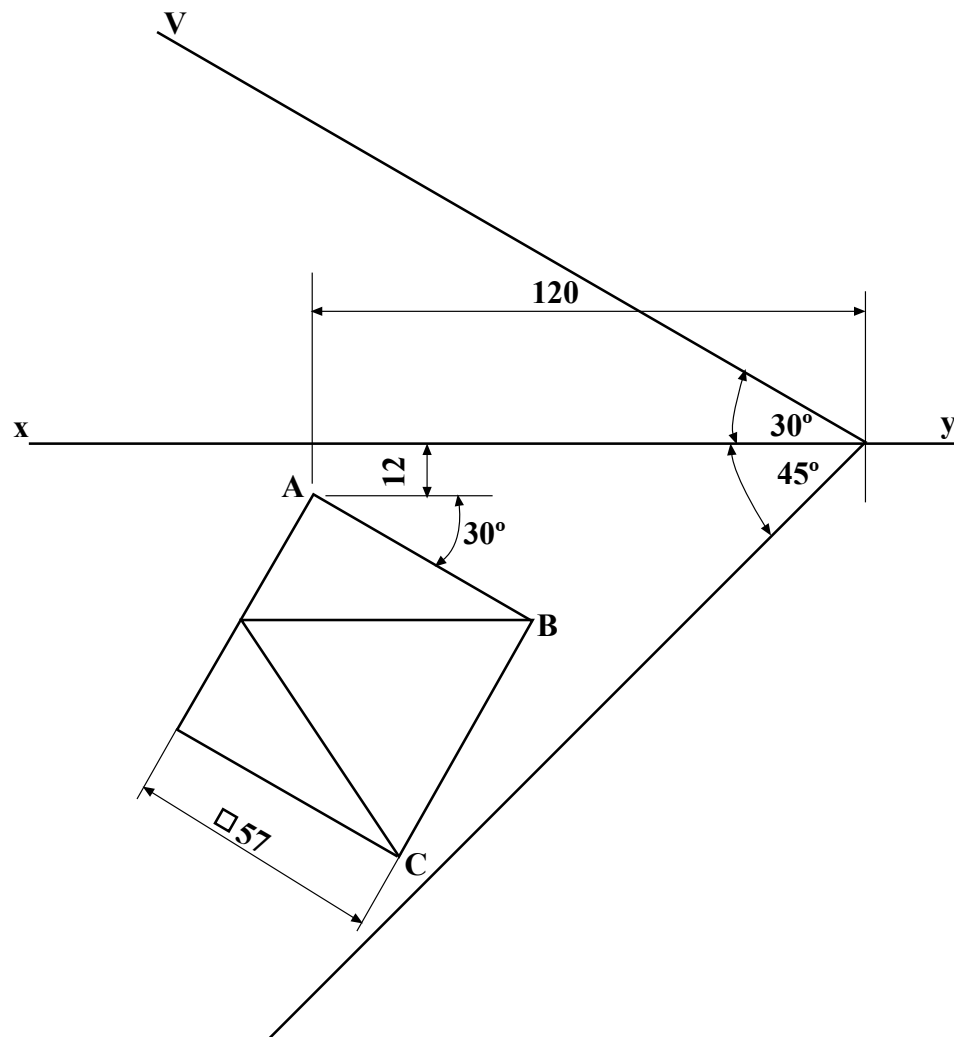

Figure 7
- 7 The plan of a square based pyramid height **95mm** tilted at **30°** to the vertical plane about edge **AB** is shown in **Figure 7**.